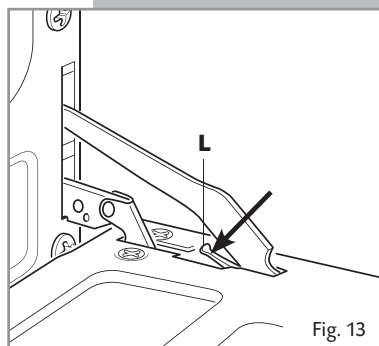

Fig. 13
- Push down the lever “L” fig. 13 and, keeping it in this position, slowly close the door in order to block the hinge.